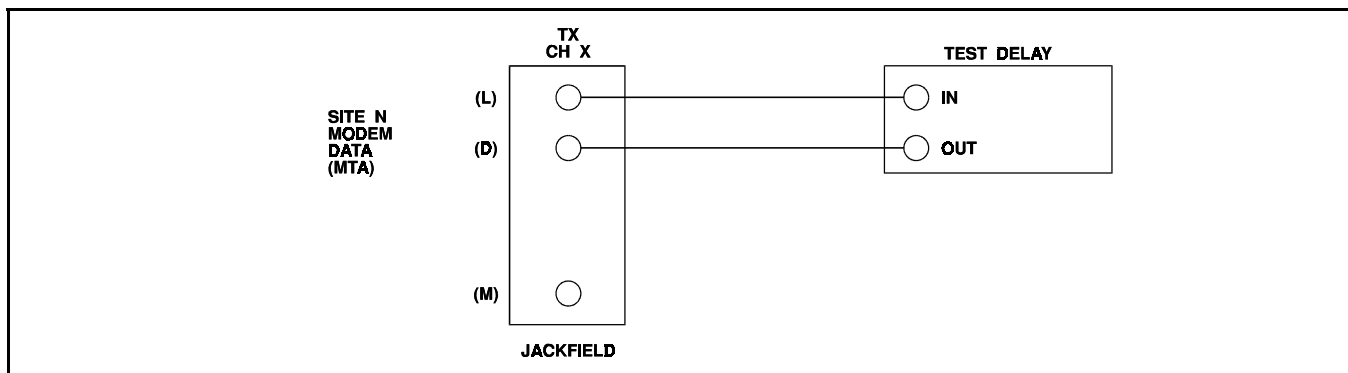

Figure 2 - Test Hook-Up
- Connect the Test Delay in series with the Tx modem audio going to the site under test on the Control Channel as shown in Figure 2.